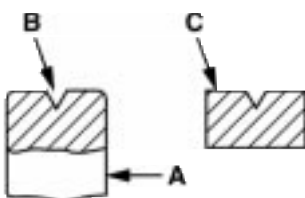

Fig. 1
2. The shaft (A) must have a center hole (B) as shown below. If it does not, use a shaft protector (C). (See Fig. 1)